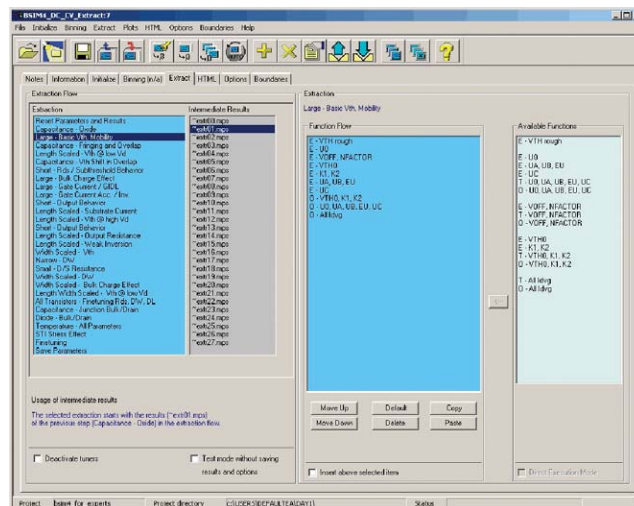

Figure 6: The BSIM4 extraction package provides everything you need to extract the whole set of BSIM4 DC, CV, and RF model parameters.
2. Follow the extraction procedures step by step or check the box to turn off all manual tuners and let IC-CAP perform automatic extraction and optimization of the model for you, as shown in Figure 6.